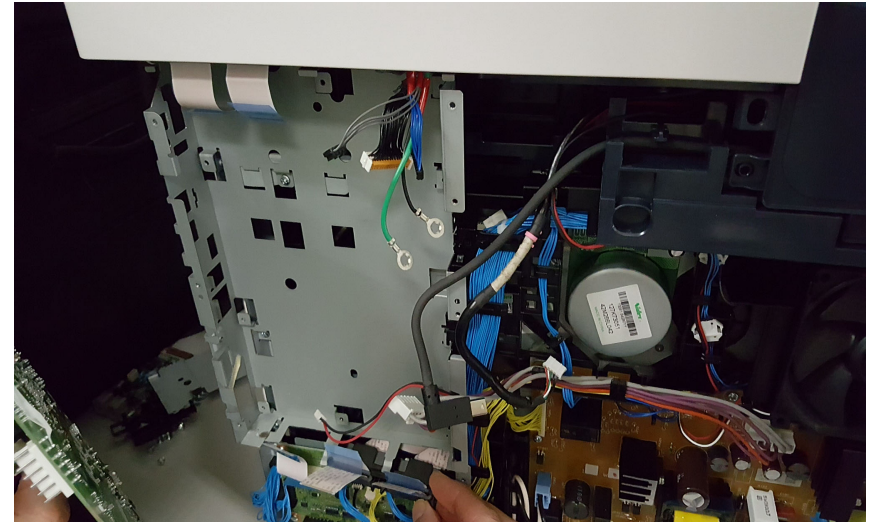

Figure 7 Removal Complete
e. The ESS PWB removal is complete, Figure 7.